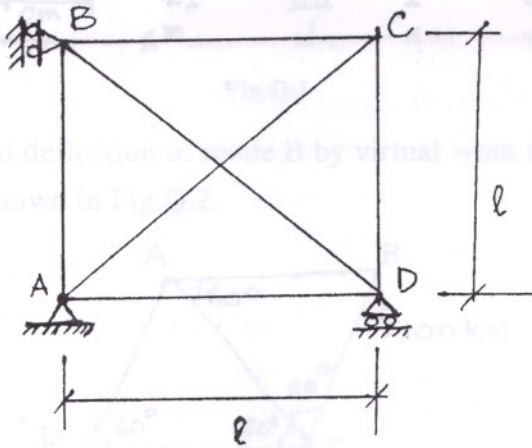

Fig.Q.10
10. Explain the concept of analysing a truss by tension coefficient method. Using tension coefficient method, determine the forces in the members of the truss shown in Fig.Q.10. The axial rigidity is  $2AE$  for horizontal and vertical members and  $AE$  for diagonal members.